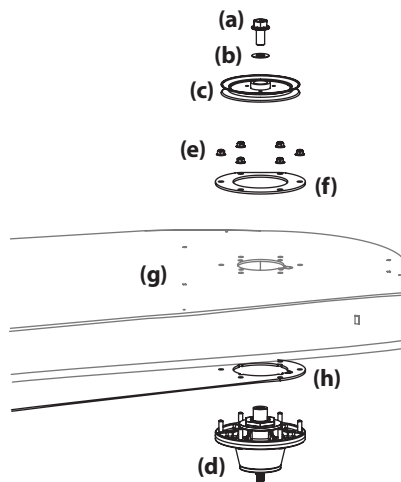

Figure 58
6. Remove the hex flange bolts (a) and flat washers (b) securing the left and right spindle pulleys (c) to the spindle assembly (d). See Figure 58.
7. Remove the 6 flange lock nuts (e) securing the left and right spindle assemblies (d) and the support plates (f) to the deck shell (g). See Figure 58.
10. Reverse the process to install the spindle assembly. When installing the new spindle assembly be sure to install the hardware exactly as shown in Figure 58. Torque the hex flange bolts to 250 ft-lbs (339 N-m) and the flange lock nuts to 21-32 ft-lbs (28-43 N-m).